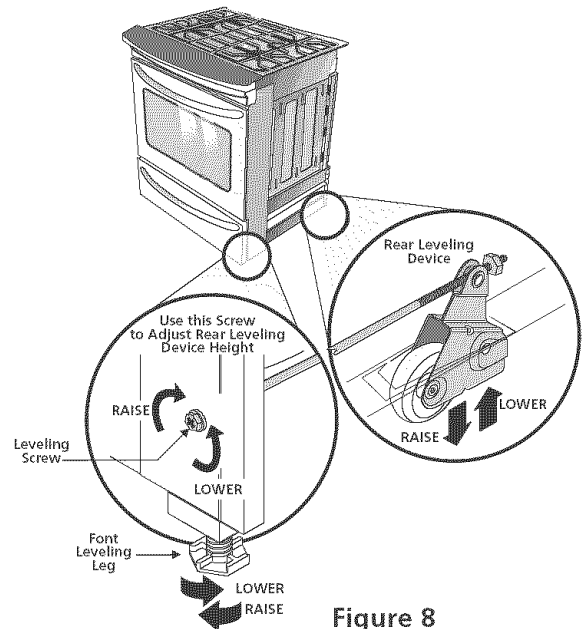

Figure 8
- Adjust the appliance legs as follows until the underside of the cooktop (or cooktop glass) surface is sitting level on the countertop (Figure 8).